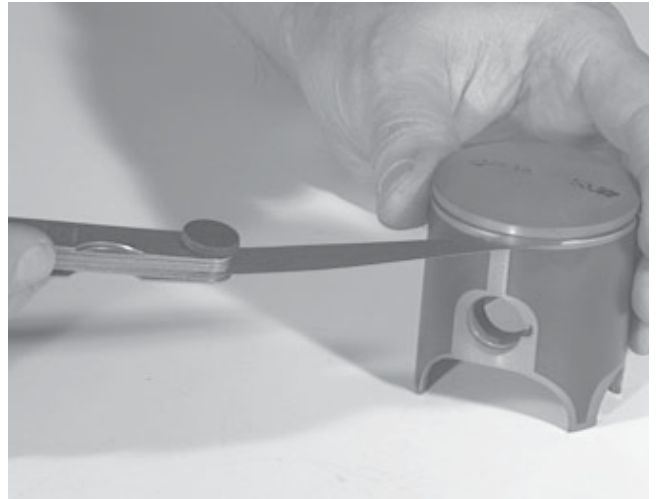

Fig. 49
- ✓ Carry out the measurement of the piston ring play in the ring groove, indicated in Fig. 49, using a feeler gauge.